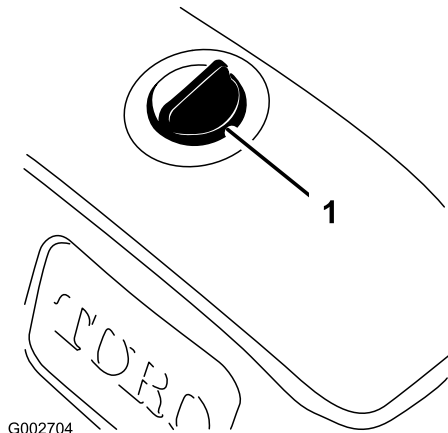

Figure 16
- Mobil EAL EnviroSyn H 46 (US)
2. Clean the area around the hydraulic-reservoir cap to prevent debris from entering the tank (Figure 16).